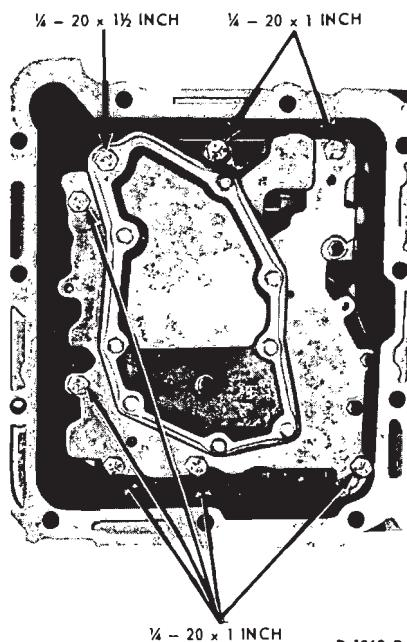

FIG. 30—Control Valve Body Attaching Bolts
6. Remove the control valve body attaching bolts (Fig. 30). Remove the control valve body from the case.